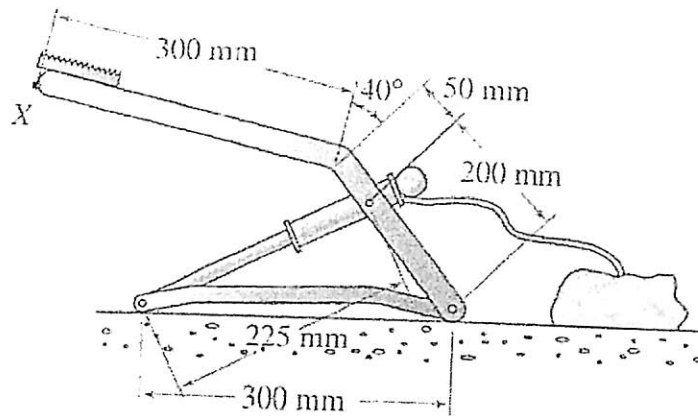

Figure 3
- (b) Graphically position the links for the foot-operated air pump shown in Figure 3. Then reposition the links as the air cylinder retracts to 175 mm. Determine the resulting angular displacement of the foot pedal and the linear displacement of point X.